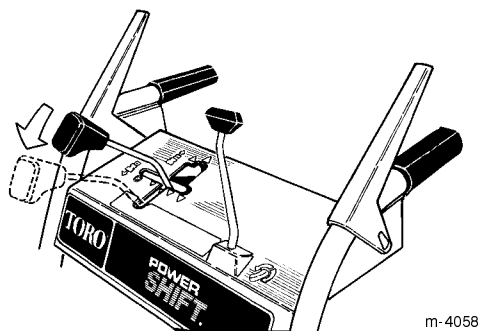

Figure 11
8. Manually move the wheels to the **rear** Power Shift position by lifting up on the handles and moving the shift control fully forward (Fig. 11).